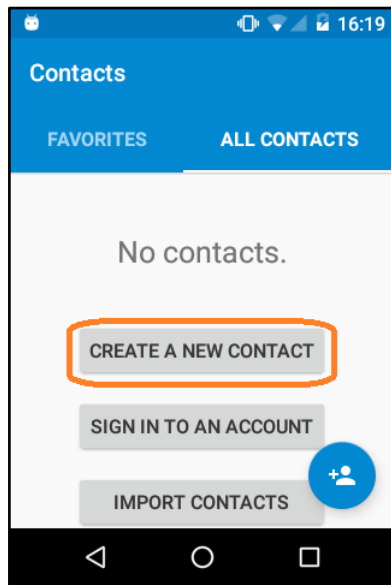

Figure 11: Create a New Contact
Users can make a phone call by tapping the phone icon on the Android app screen which then displays the Android phone keypad. To make a call from the SHOUT sp, first dial the country code, then the area code, and then the phone number. (Country code for the US is +1 or 001). To start a call with a '+' sign, press and hold the '0' key on the Android phone keypad, as seen in **Figure 9: Android Phone Keypad** below. The plus (+) sign displays in the phone number field. When the complete phone number has been entered, tap the call icon to dial the phone, as shown in **Figure 11** (on the following page).
1. Tap the **Contacts** icon on the Android app screen to open the *Contacts* screen, as seen without any contacts in **Figure 11**.